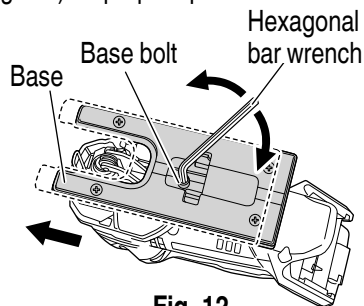

Fig. 12
- (1) Loosen the base bolt by hexagonal bar wrench attached on base and move the base fully forward. (Fig. 12)